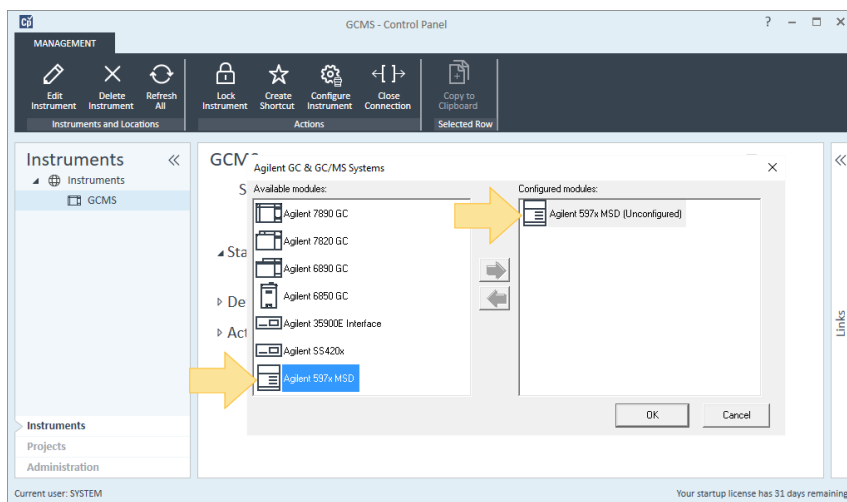
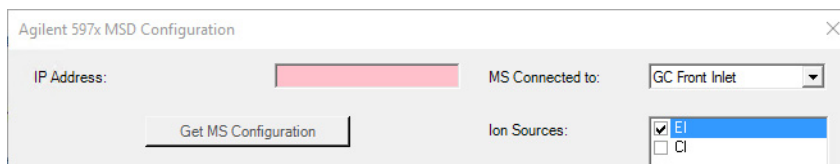

Figure 2. Configure instrument control panel
Figure 3. Configuration box
- 4 Double-click **Agilent 597x MSD**, then double-click **Agilent 597x MSD (Unconfigured)**. (See **Figure 2**.) This displays the configuration box. (See **Figure 3** on page 10.)